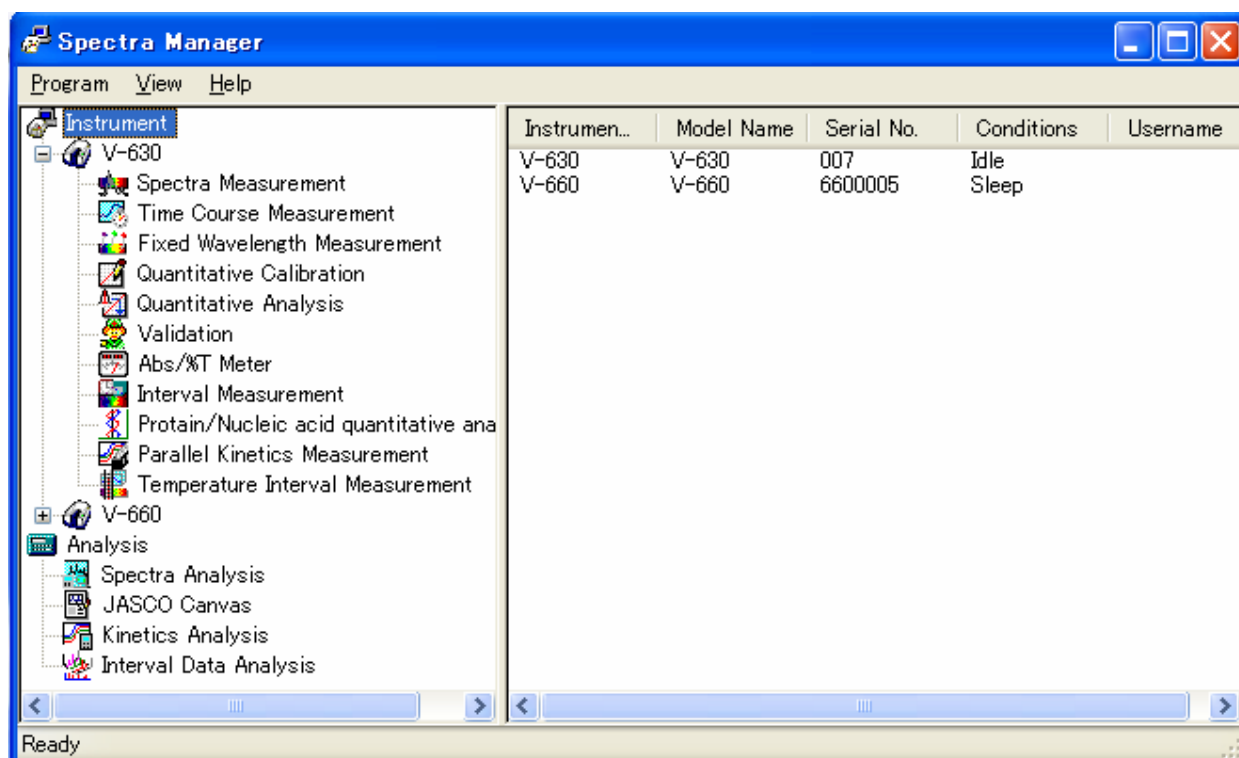

Figure 2.9 [Spectra Manager] Window
- (1) After starting Windows, double-click on the [JASCO Spectra Manager] icon located on the Windows desktop. The window shown in Fig. 2.9 is displayed.